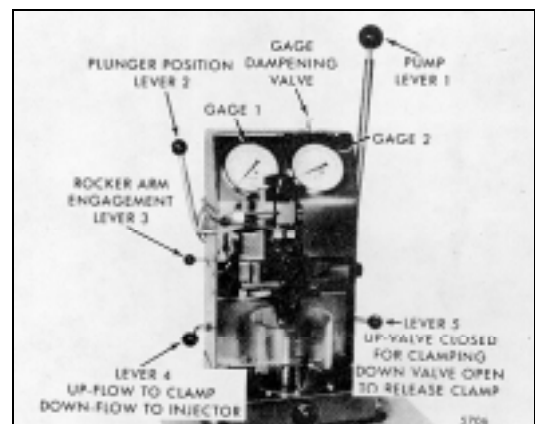

Fig. 13 - Injector in Position for Testing with Tester J 23010
1. Refer to Fig. 13 and position the injector tester levers as follows:
1. Move lever 4 down and operate pump lever I with even strokes (Fig. 13).